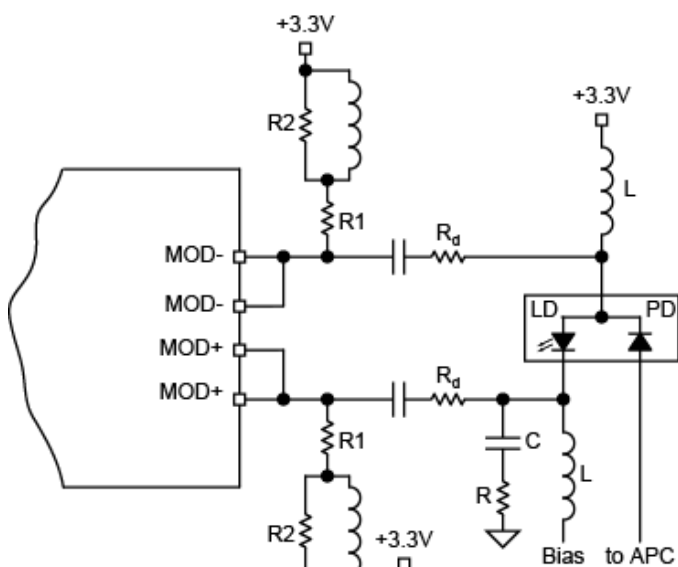

Figure 4. Laser AC-Coupled
On the other hand, the smaller the value of  $R_d$ , the higher is the overshoot/undershoot on the optical signal from the laser. In the circuit shown in Figure 4, the RC compensation network across the driver outputs (MOD+ and MOD-) allows the user  $R_d = 10\Omega$ . The optical eye diagrams at data rates of 1.25Gbps, shown in "Functional Characteristics" section, are all obtained with the same circuit using  $R_d = 10\Omega$ ,  $R_{Comp} = 100\Omega$ , and  $C_{Comp} = 3pF$ . The compensation network may change from one board to another and from one type of laser to another. An additional compensation network (RC) can be added at the laser cathode for further compensation and eye smoothing.
When trying to AC-couple the laser to the driver, the headroom of the driver is no longer a problem since it is DC isolated from the laser with the coupling capacitor. At the output, the headroom of the driver is determined by the pull-up network. In Figure 4, the modulation current out of the driver is split between the pull-up network and the laser. If, for example, the total pull-up resistor is twice the sum of the damping resistor and laser equivalent series resistance, then only two thirds (2/3) of the modulation current will be used by the laser. Therefore, to keep most of the modulation current going through the laser, the total pull-up resistor must be kept as high as possible. One solution involves using an inductor alone as pull-up, presenting a high impedance path for the modulation current and zero ohm ( $0\Omega$ ) path for the DC current offering headroom of the driver equal to  $V_{CC}$  and almost all the modulation current goes into the laser. The inductor alone will cause signal distortion, and, to improve this phenomenon, a combination of resistors and inductors can be used (as shown on Figure 4). In this case, the headroom of the driver is  $V_{CC} - R_1 \times \alpha I_{MOD}$ , where  $\alpha I_{MOD}$  is the portion of the modulation current that goes through the pull-up network.